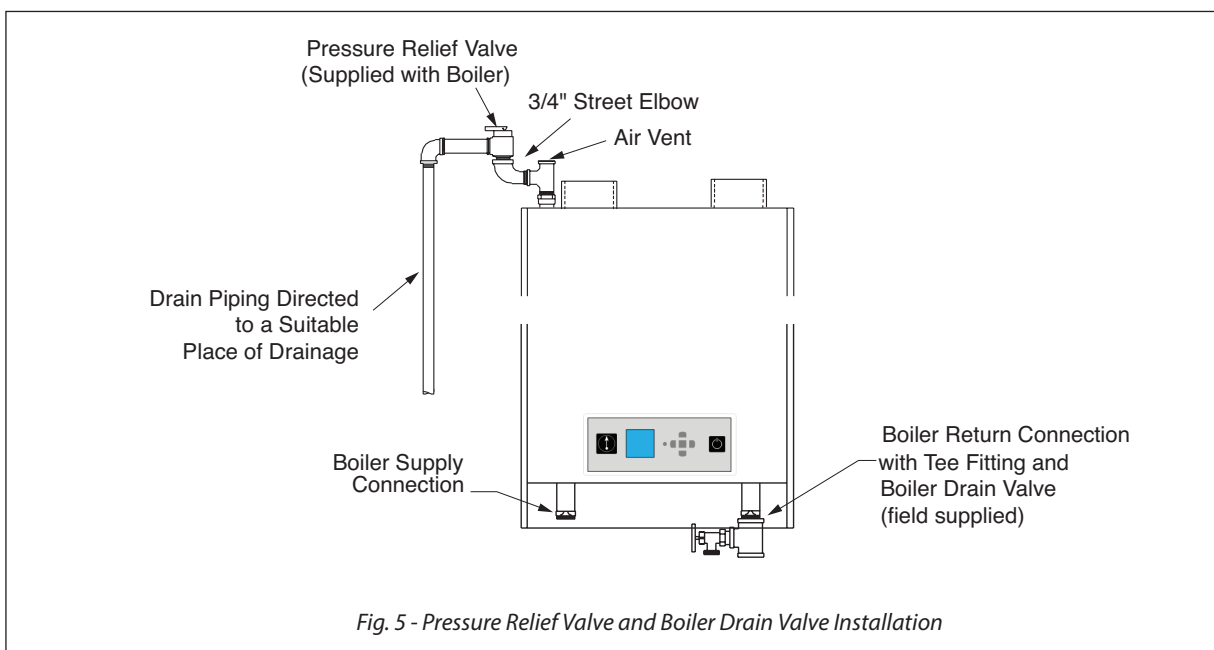

Fig. 5 - Pressure Relief Valve and Boiler Drain Valve Installation
1. The GALLANT is supplied with a 30 psi pressure relief valve and must be piped using the PRV connection as shown in *Fig. 5 below*.